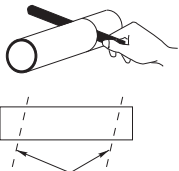

Fig. 11
- (5) Measure the thickness of the wall from the inside edge to the outside edge and cut PVC pipe at a slight angle 1/4" (6 mm) shorter than the thickness of the wall. (Fig. 11)